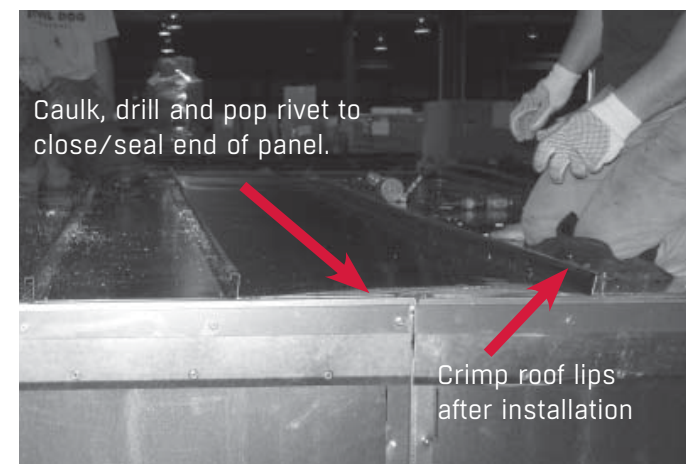

FIGURE 14
- 17) Apply second foam panel. (See **FIGURE 14** picture for caulking instructions).
- 19) Crimp roof lips with crimping tool (See **FIGURE 14**).